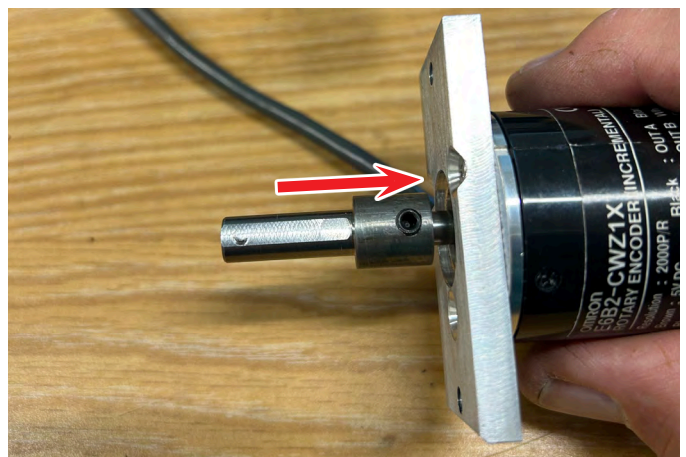

FIGURE 21
5. Push the shaft adapter on all the way as shown below and then tighten the set screw (see Figure 21).